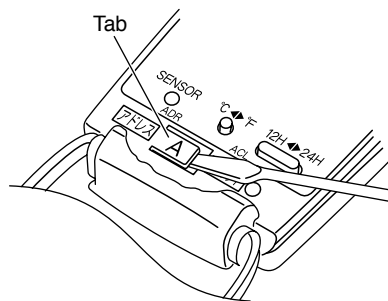
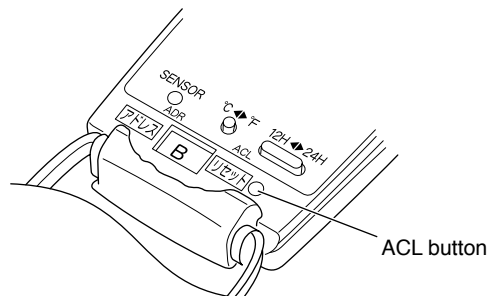

Fig. 13
Fig. 14
- (1) Switch on the power source.
- (2) Break the address-setting tab marked "A" on the second remote controller to change the address (Fig. 13). When the tab is removed, the address is automatically set to B (Fig. 14).
- (3) Press and hold the remote controller HIGH POWER button and 1 HR. TIMER button. Then, press and hold the ACL (reset) button with a pointed object such as the tip of a pen. After 5 seconds, release ACL button first, then release HIGH POWER and 1 HR. TIMER buttons, "oP-1" (test run) appears, blinking in the remote controller clock display area.